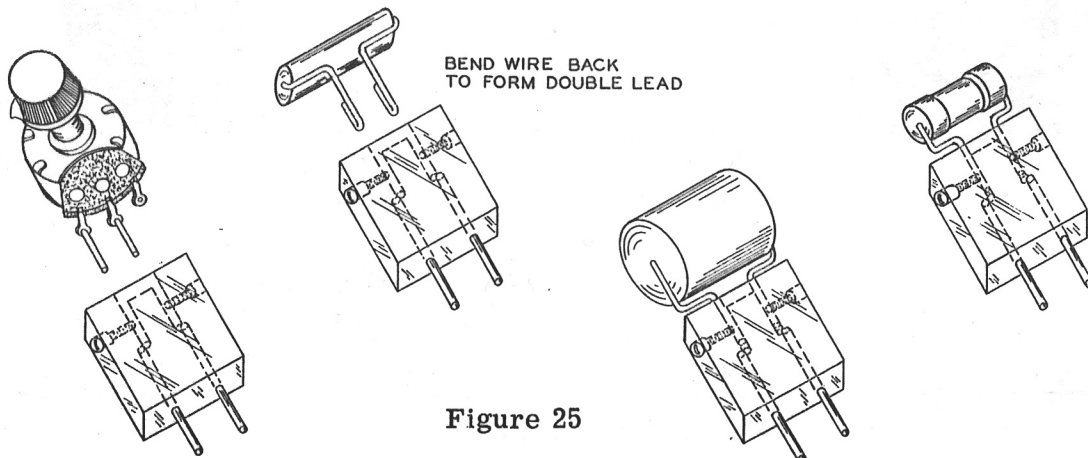

Figure 25
- ( ) Plugs are provided for mounting components used in problem solving. Suggested methods for the mounting of supplied components as well as special parts which may be needed for special problems are shown in Figure 25. The plugs fit into the sockets on the panel, making possible easy and rapid changes in values of components when solving problems. When mounting components on the plugs, it is recommended that the leads be left long enough so they can be doubled back before insertion into the plug. This will insure a better connection.